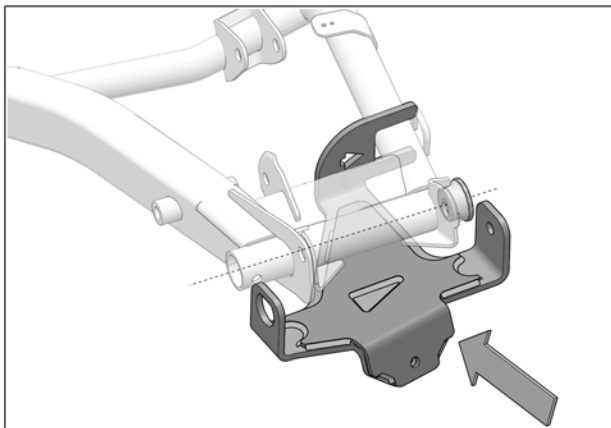

Fig. 6
- Slide anchor bracket toward back of suspension arm and align bracket mounting holes with suspension arm tube holes. See Fig. 6